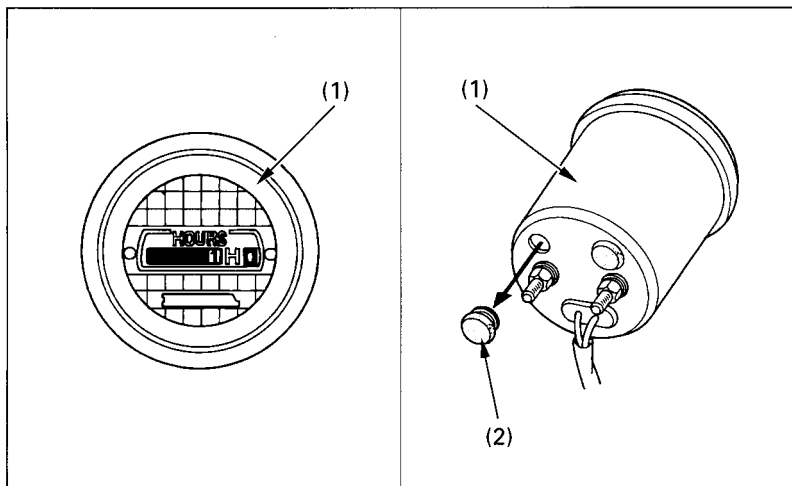

Fig. 2-16 (1) Hourmeter
The hourmeter (Fig. 2-16) shows hours and tenths of hours that the engine has run. It is operated when the ignition switch is turned I (ON), providing accurate means of knowing when the FOURTRAX is to be serviced. Remove the rubber cap (2) below the hourmeter when the meter glass is clouded. Reinstall the cap securely after the meter glass becomes cleared.